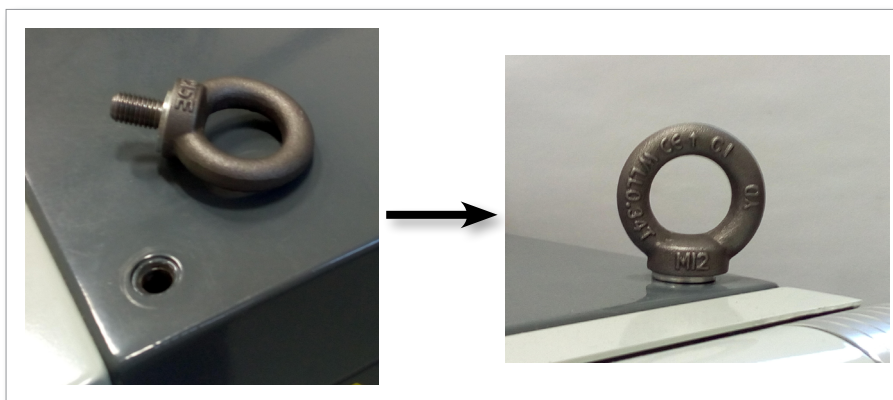

Figure 3-10 Install eyebolts and washers
Assemble eyebolts and washers and install into the holes on the top of the E-Multi controller. See Figure 3-10
6. Attach slings to all of the eyebolts. See Figure 3-10.